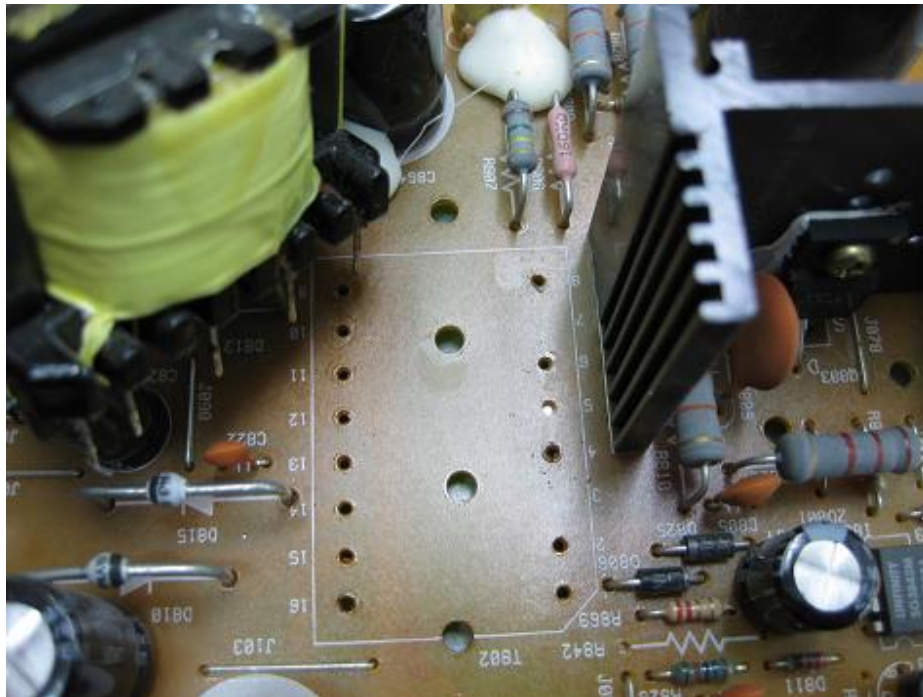

Figure 14.4- Remove The Power Transformer
- 1 Remove the SMPS transformer from the circuit (refer to figure 14.4)